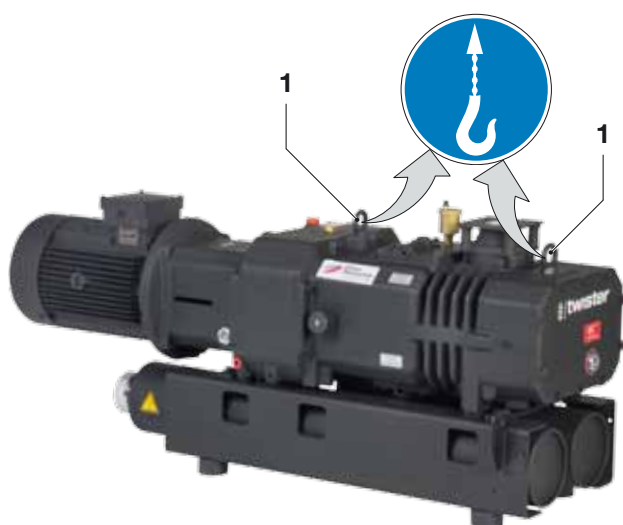

Fig. 1 Lifting and transporting
- a) Tighten the eyebolts (Fig. 1/1) firmly.